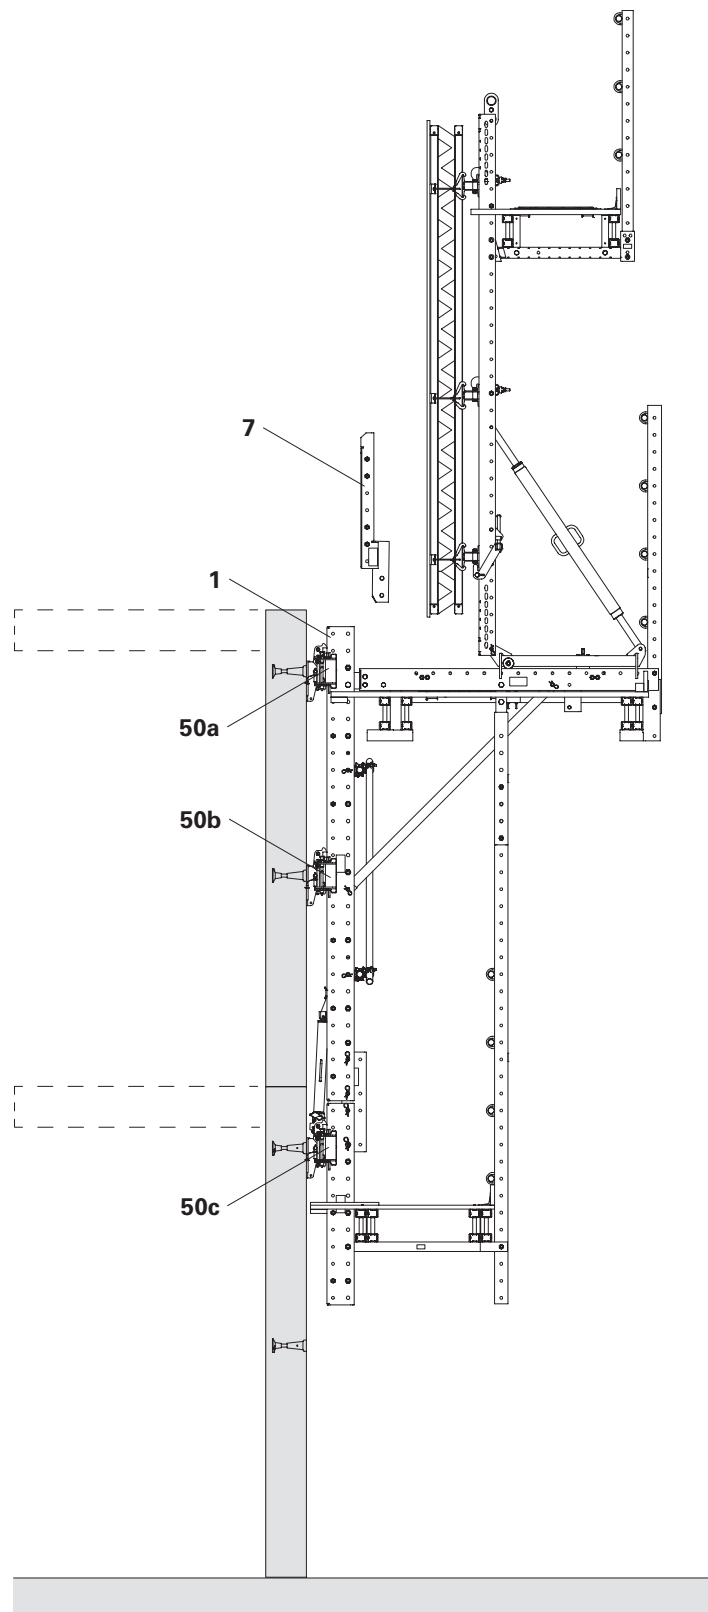

Fig. C4.09
1. Continue climbing until the upper climbing rail (1) is positioned in the uppermost climbing shoe (50a) in its entirety.
6. Remove the climbing rail extension (7) from the upper end of the climbing rail (1) and the climbing device.
- (Fig. C4.09)